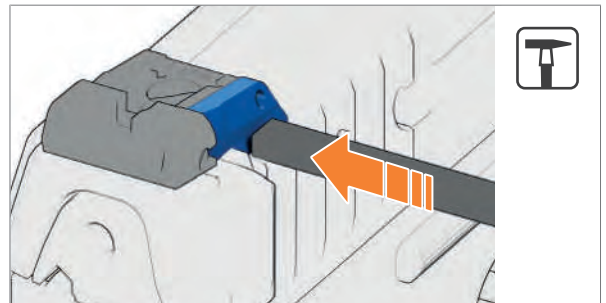

Fig. 34: Removing rear sight
3. Remove rear sight with tool (Fig. 34).